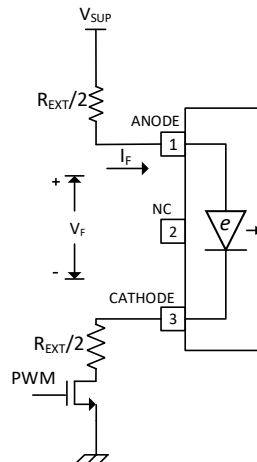
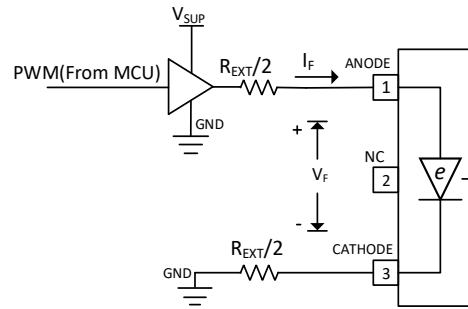
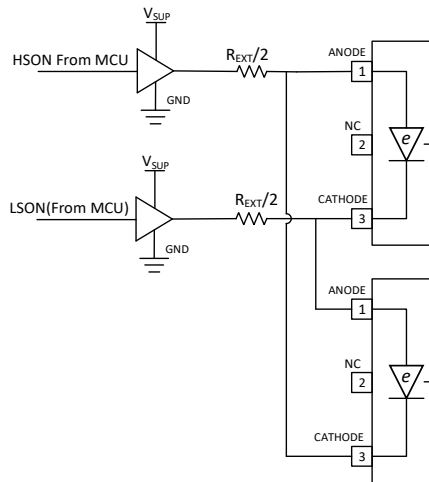

Figure 8.2 NSI68515 typical application circuit with NMOS driving input stage
Figure 8.3 NSI68515 typical application circuit with one buffer driving input stage
Figure 8.4 Interlock Protection using NSI68515
NSI68515 requires 7mA to 16mA bias current that flows into the e-diode for normal operation. The PWM from MCU is not suitable to provide such current directly and external circuit is needed. In Figure 8.2, one NMOS is used with split input resistors. Another input drive method is using one buffer, as shown in Figure 8.3.
The recommended forward current range for NSI68515 is 7mA to 16mA. The value of input resistor, buffer supply voltage and buffer internal resistance influence the forward current, as shown in Equation (1). In Figure 8.2, R_{Buffer} is the on-resistance of the external NMOS. In Figure 8.3, R_{Buffer} is the buffer output impedance in output “High” state. In Figure 8.4, R_{Buffer} is the summary of buffer output impedance in “High” and “Low” state.
The parameter variation needs to be taken into consideration when selecting input resistor. Take Figure 8.2 as an example, Table 8.1 lists assumed parameter variation in this example.